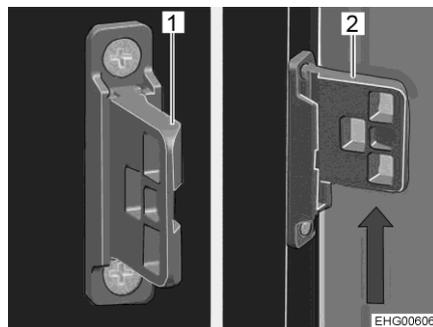

Fig. 168 Locking device
- Push the locking device upwards (Fig. 168,2).
- Push the locking device downward (Fig. 168,1).